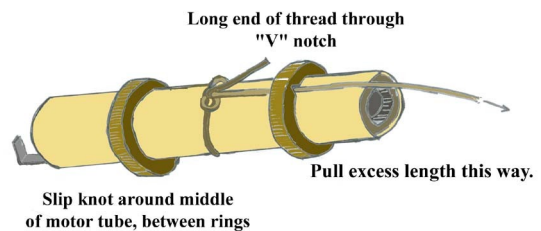

Figure 4
- **Step 6** Tie a slip knot around the middle of the engine mount using the Kevlar thread, as shown in Fig. 4. Push the free end of the Kevlar thread through the "V" notch in the forward ring, pulling the excess all the way forward as you slide the loop up against the back of the ring. Secure this loop to the mount with a layer of thinned glue, then set aside to dry.